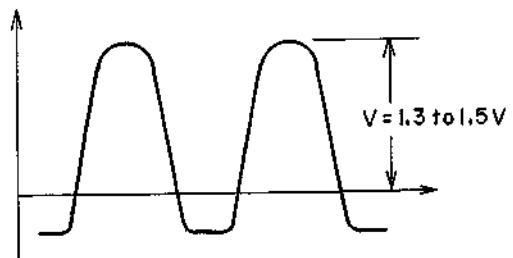

Fig. 41
- 3) Adjust VR4 until the oscilloscope waveform reassembles that in Fig. 41.
- 4) Check that the waveforms at other holes are also the same as Fig. 41.